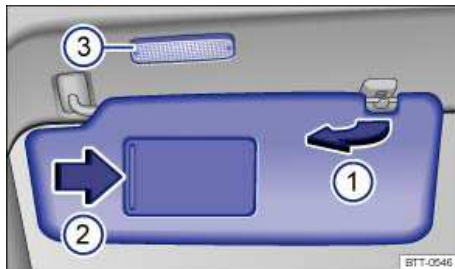

Fig. 73 In the headliner: Sun visor.
- Lift it out of the retaining clip ⇒ fig. 73 \(1\) and swivel it over toward the door.